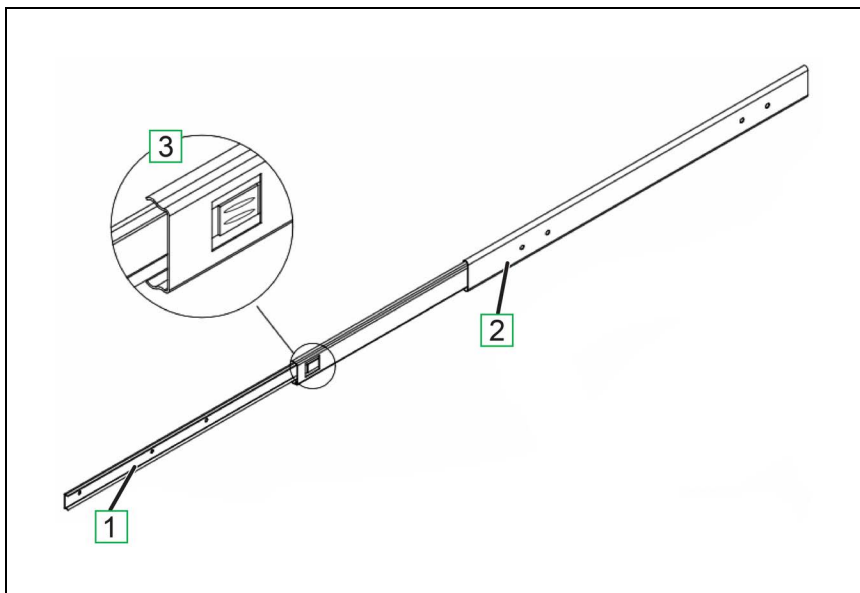

Figure 4-3. Remove the Sliding Rail from the Sliding Track (Right Assembly Shown).
4. Carefully and slowly pull the chassis out again to full extension, making sure that the rail stops at the lock (See [3] in Figure 4-3.).
4. Press the locking buttons and continue to pull the sliding rail out, removing it completely from the sliding track (refer to [3] in Figure 4-3. for locking button locations).